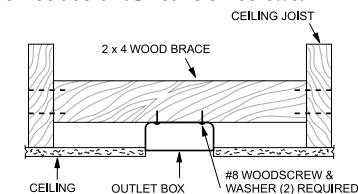

Figure 2
1. Secure metallic outlet box 4" x 1-1/2" or 4" x 1/2" deep to 2 x 4 cross brace between two ceiling joists as shown in Figure 2. The outlet box must be recessed into the ceiling by 1/16" minimum. Secure the outlet box to the cross brace by drilling (2) pilot holes no larger than the minor diameter of the wood screws (5/64") and use two #8 x 1-1/2" wood screws and washers. Use the innermost holes for securing the box. Orient the box so the outermost holes will be used in Step 4B.